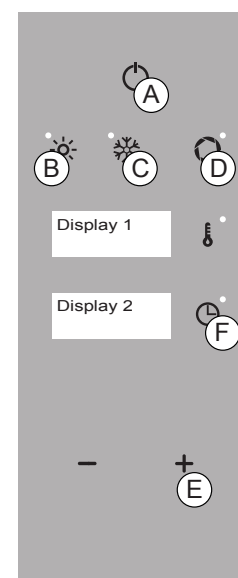

Fig. 9
1. Push the "ENTER" key (Fig. 9/A) and push at the same time key "CONVECTION", "VENTILATION" and "VENT" for 5 seconds (Fig. 9/B+C+D).
2. Push several times key "PLUS" till to select "P" (Fig. 9/E- Display 1).
3. Push key "TIME" (Fig. 9/F) to enter in the parameter and with key "PLUS" set the VALUE "1".
4. To memorize the parameter push the key "TIME" (Fig. 9/F).
Keep pushed for 5 seconds the key "ENTER" (Fig. 9/A) to exit from the function.